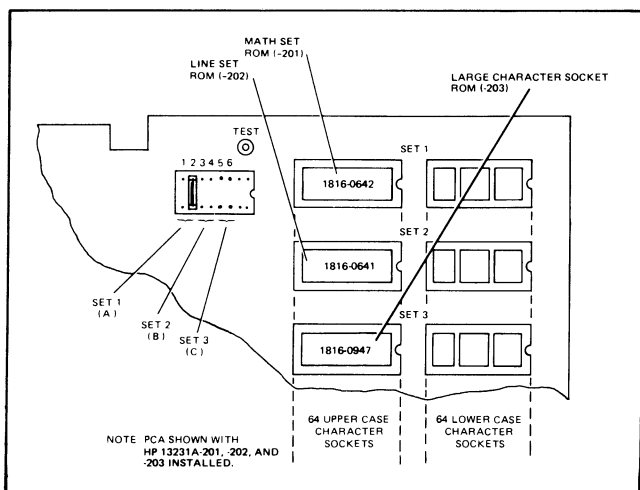

Figure 7-6. Display Expansion PCA Jumper and ROM Socket Locations
- () Using figure 7-6 and table 7-1 as a guide, check that Display Expansion PCA jumpers are arranged correctly for the ROM character set configuration. If there are no alternate character set ROM's installed (HP 13231A), all jumpers should be in the jumper socket.
- 4. () When connected to the Display Expansion PCA, the PROM Character PCA character sets 1 and 2 replace the Display Expansion PCA character sets 1 and 2 respectively. If an alternate set(s) is to be replaced, first determine if the user generated PROM set(s) is alphanumeric or microvector. Then, using table 7-1 and figure 7-6 as a guide, correctly arrange Display Expansion PCA jumpers 2 and 4 for the PROM character set type(s). (Jumpers 1 and 3 can either be removed or left installed.)